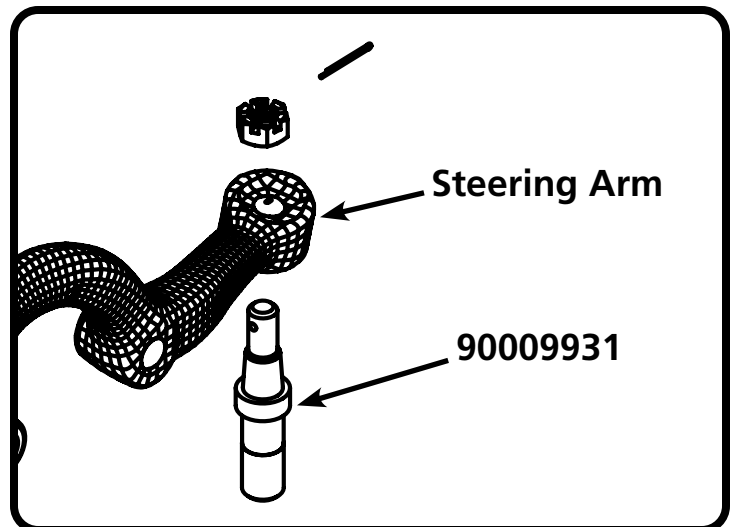

Figure 10
17. Insert the tapered end of the tie rod stud into the taper of the steering arm (Figure 10). Thread the 7/16" castle nut onto the stud. Torque to **35 ft-lbs.** If necessary, tighten to align the cotter pin hole with slot on castle nut. Install the cotter pin.